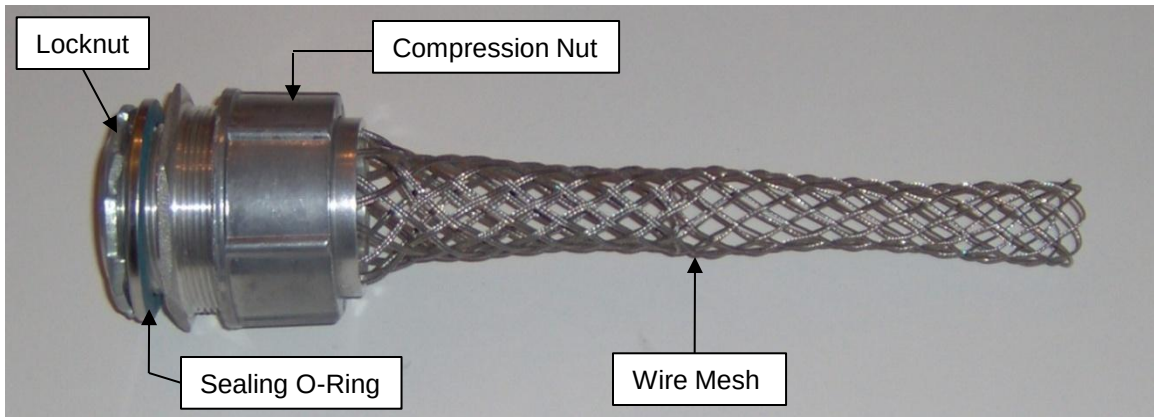
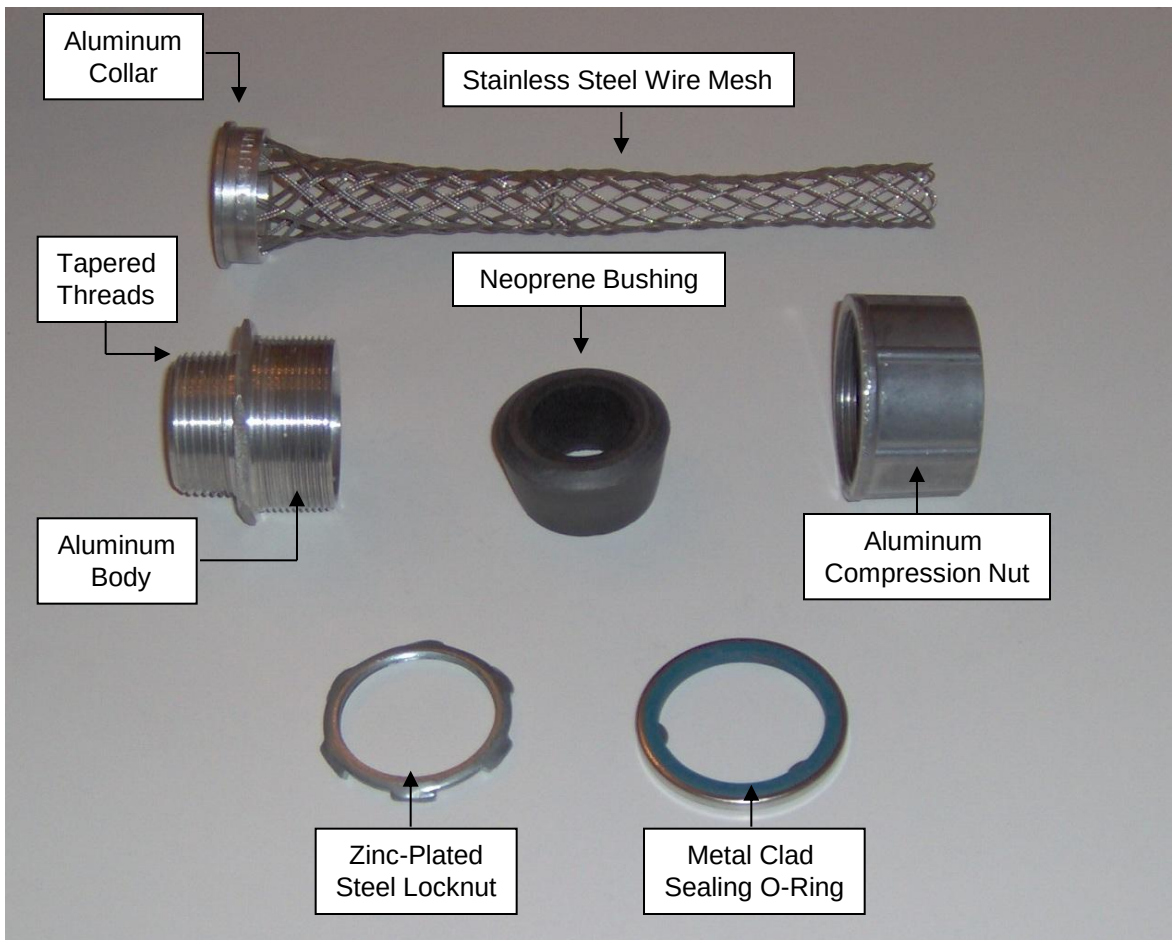

Figure 2
Figure 3
5.1 **See Fig. 2 and Fig. 3** for a typical Liquid-Tight Kellems Grip layout.